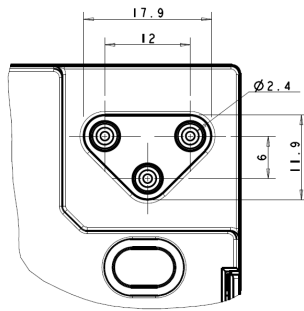

Fig. 4
- ↳ **B:** supply with triangular outlet type SP1 (Fig. 4);